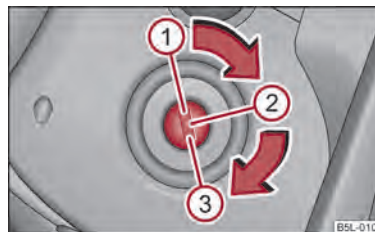

Fig. 96 Ignition lock positions
- The engine can be switched off by turning the ignition key into position ① → fig. 96.